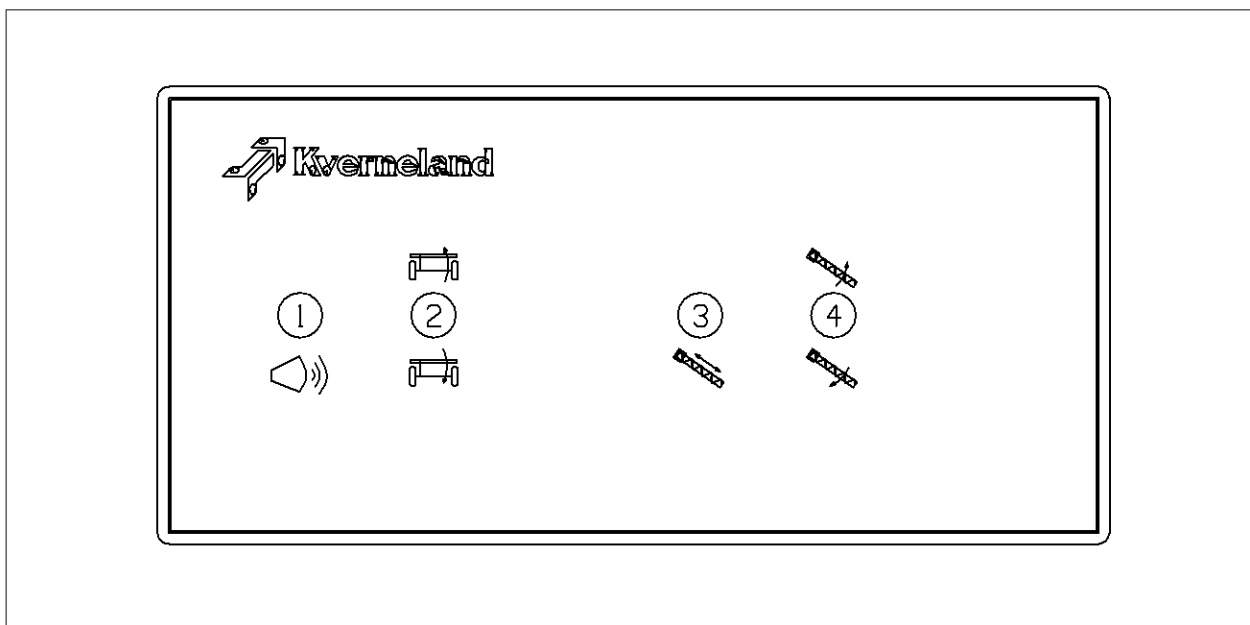

Fig. 37
- Control panel picking table (Fig. 37) (2622/2632)
All functions of the picking table control panel can even be operated from tractor cab (Fig. 37)